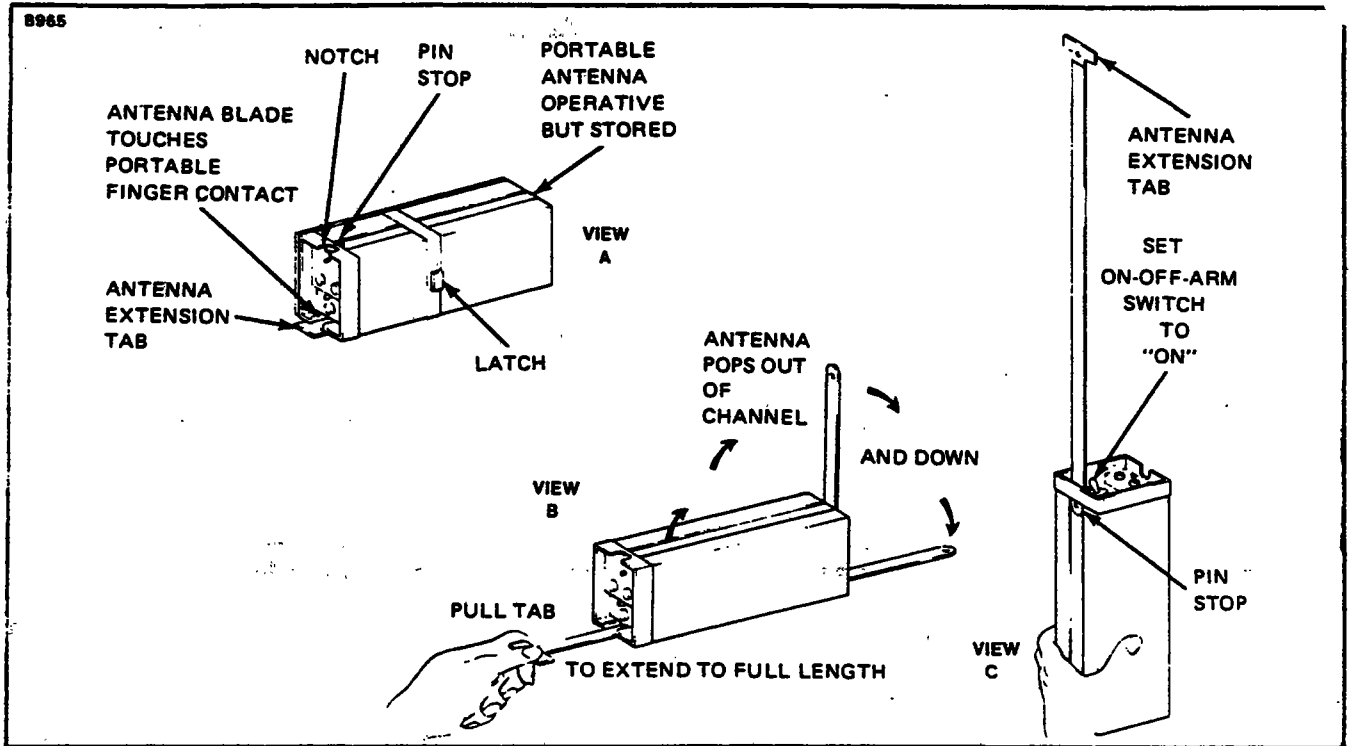

Figure 12-2. ELT Portable Folding Antenna (Narco)
**12-5. BATTERY REMOVAL AND INSTALLATION (NARCO) (Refer to Figures 12-2 and 12-3).**